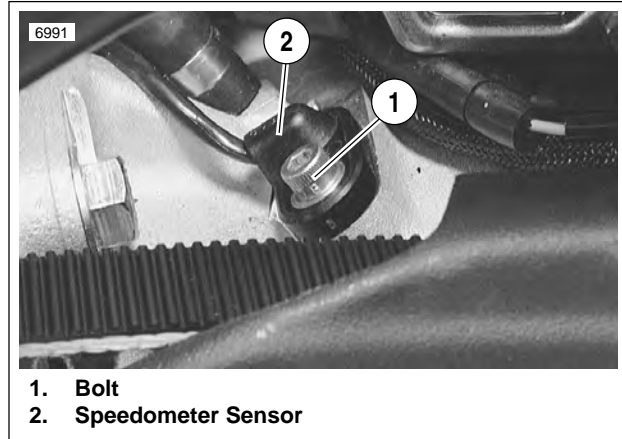

Figure 7-55. Speedometer Sensor
1. See Figure 7-55. Remove bolt (1) to detach speedometer sensor (2) from crankcase.
1. See Figure 7-55. Install bolt (1) to attach speedometer sensor (2) to crankcase.